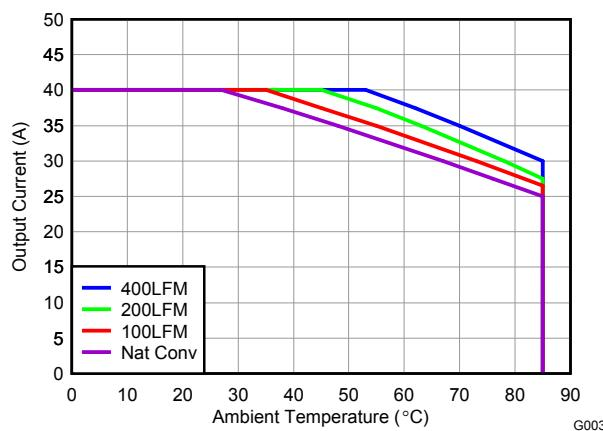
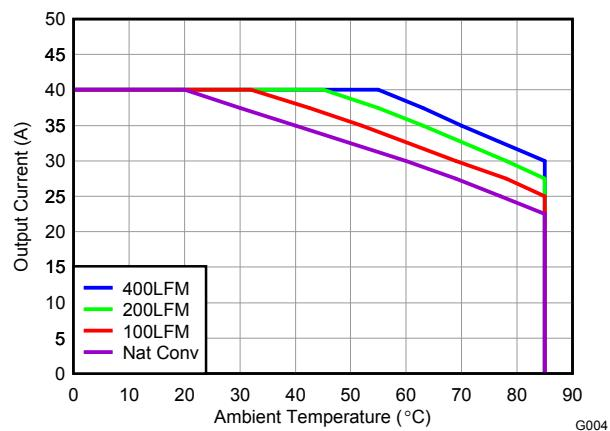
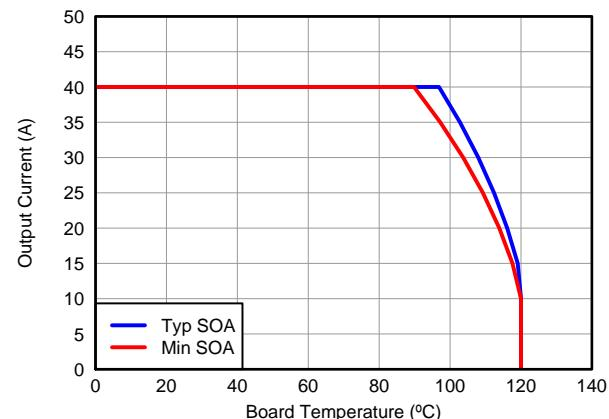

Figure 9. Safe Operating Area – PCB Vertical Mount (1)
Figure 10. Safe Operating Area – PCB Horizontal Mount (1)
Figure 11. Typical and Min Safe Operating Area (1)
The SOA curves in the CSD97370Q5M datasheet give engineers guidance on the temperature boundaries within an operating system by incorporating the thermal resistance and system power loss. Figure 9, Figure 10, and Figure 11 outline the temperature and airflow conditions required for a given load current. The area under the curve dictates the safe operating area. All the curves are based on measurements made on a PCB design with dimensions of 4.0" (W) x 3.5" (L) x 0.062" (T) and 6 copper layers of 1 oz. copper thickness.